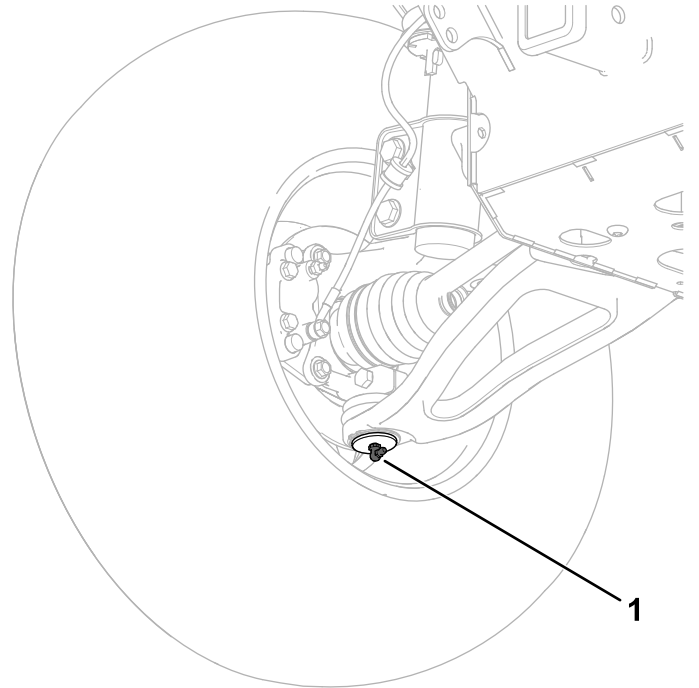

Figure 94
- **Ball joints (2);** refer to Figure 94